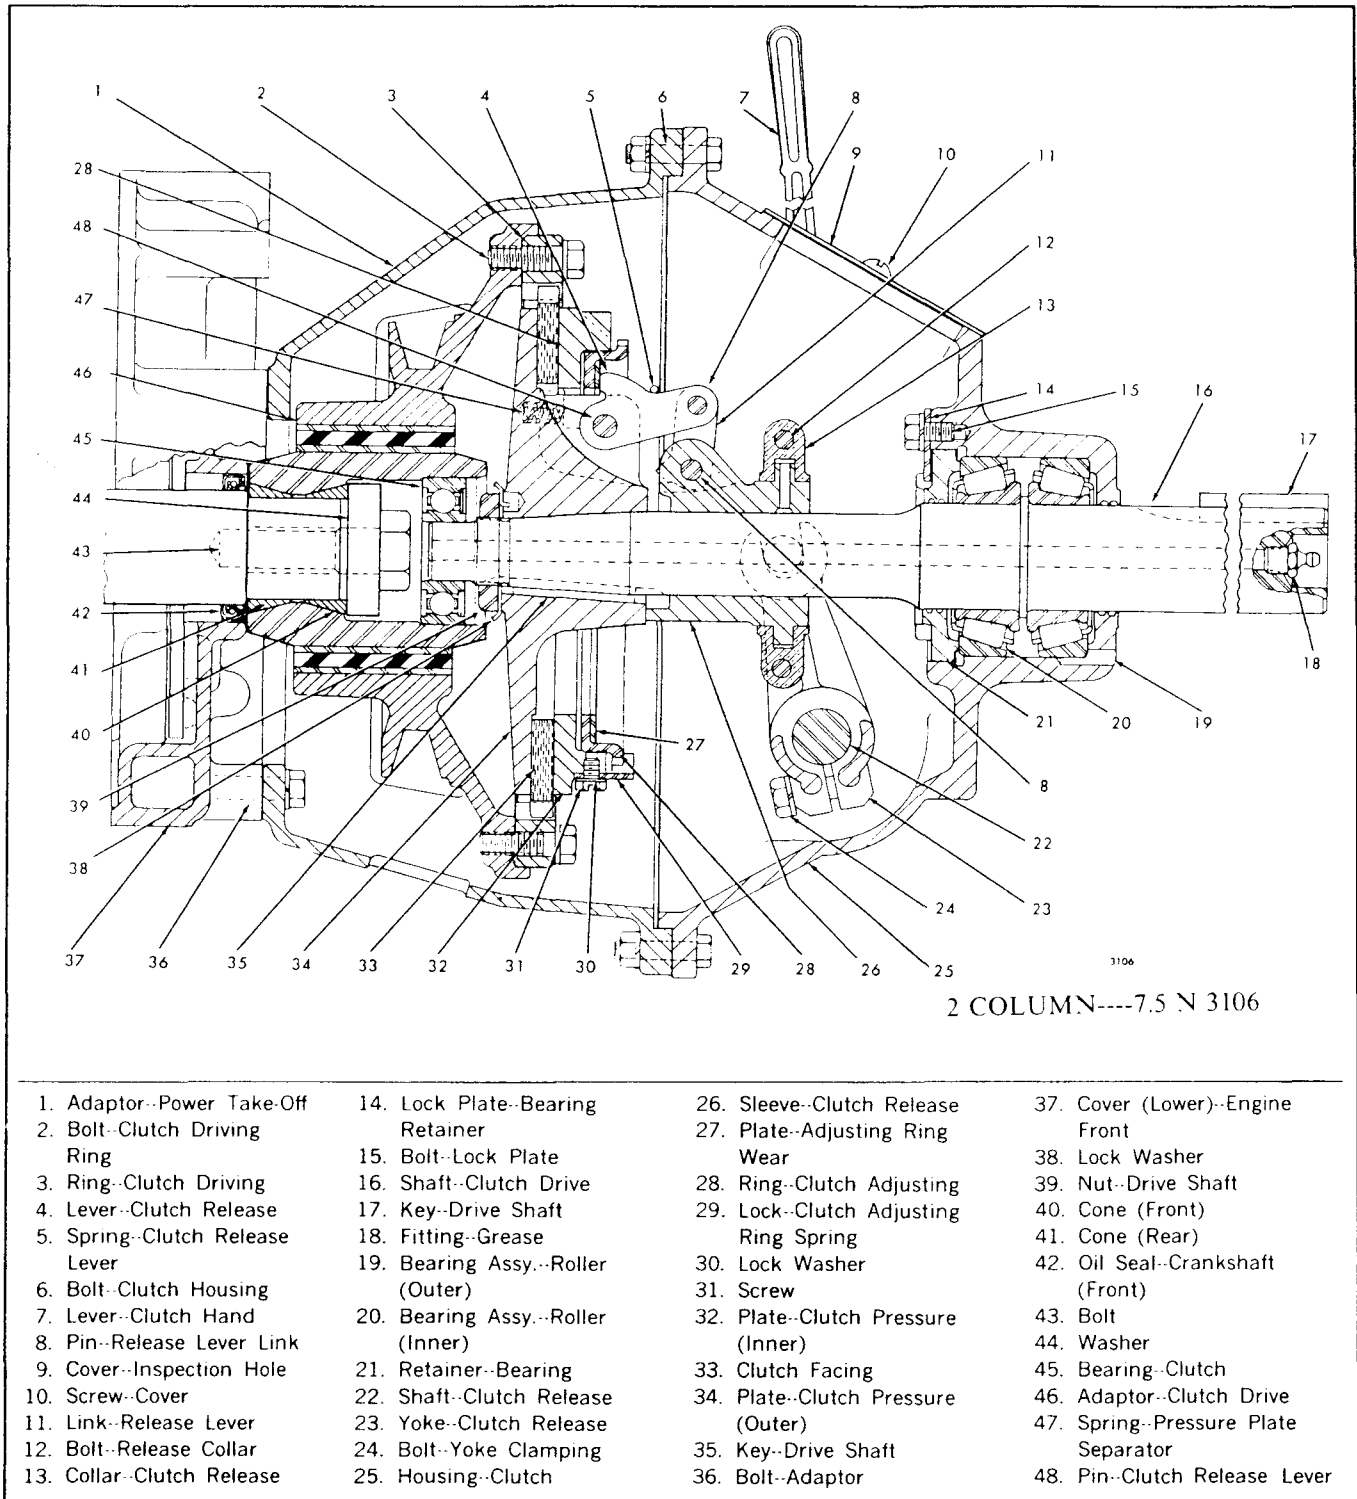
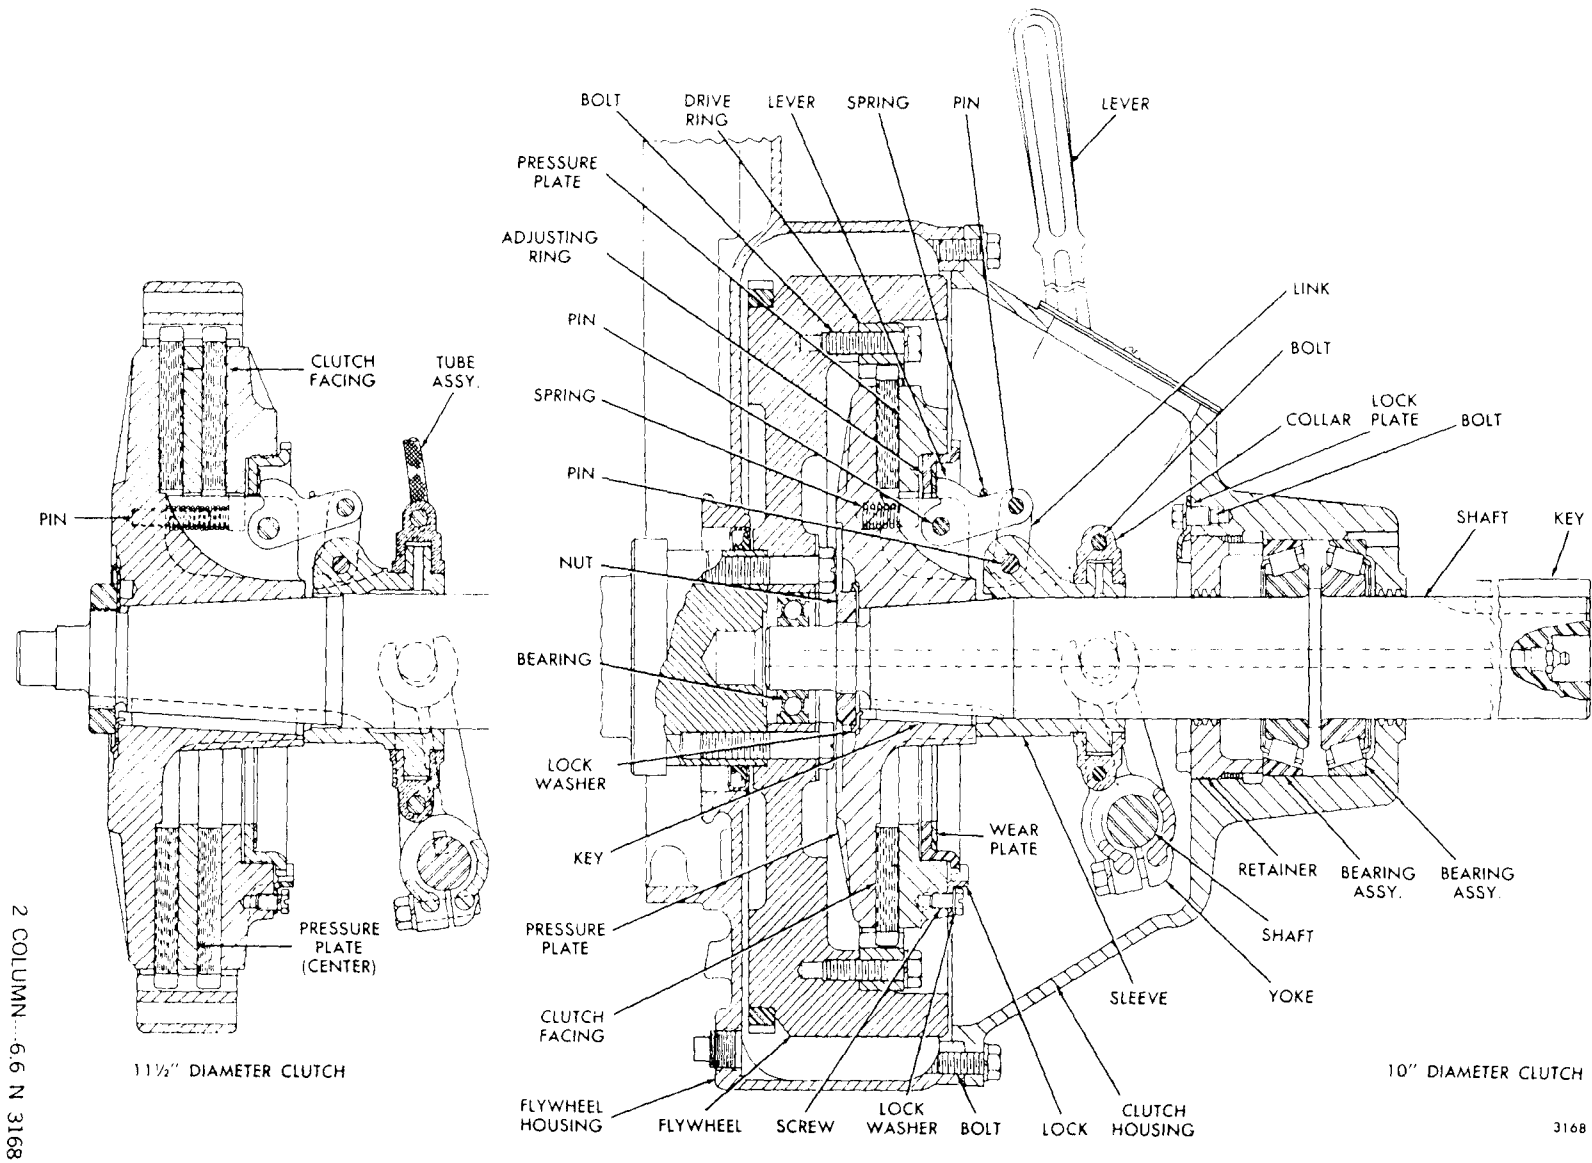

Fig. 1 - Front End Power Take-Off and Drive Assembly (8 Inch Diameter Clutch)
Fig. 2 - Rear Power Take-Off Assembly
The direct drive power take-off unit is attached to either an adaptor (front power take-off) or the flywheel housing (rear power take-off). The clutch mechanism in the current 8" diameter clutch front power take-off consists of a one-piece dry disc clutch facing (33), Fig. 1. Formerly a three-piece clutch facing was used. The rear mounted power take-offs have either a 10" diameter single or a 11-1/2" diameter double-plate clutch. The clutch mechanism in the 10" diameter clutch consists of a three-piece dry disc clutch facing (Fig. 2). The clutch mechanism in the 11-1/2" diameter clutch consists of two one-piece dry disc clutch facings; formerly it consisted of two three-piece facings.
The forward end of the drive shaft is supported by a single-row ball bearing in the flywheel (Fig. 2) or the clutch drive adaptor (46), Fig. 1. The outer end of the drive shaft is supported by two tapered roller bearings in the clutch housing.